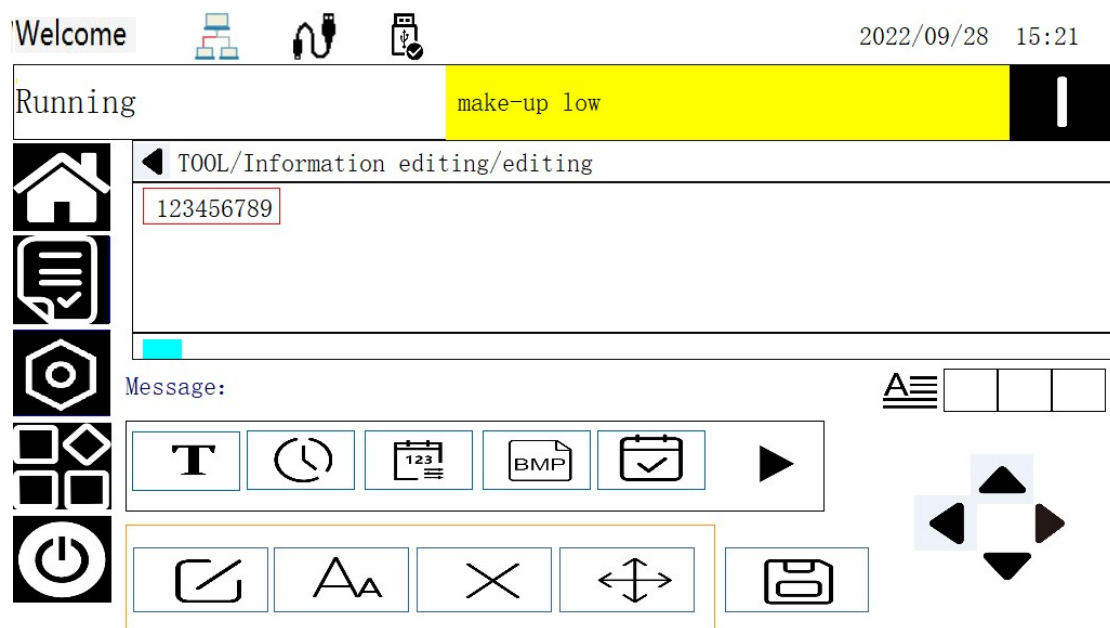

Figure4-4
6、 Close “Ink valve”, as shown in Figure 4-4. At the same time, switch “Start pump” to OFF.